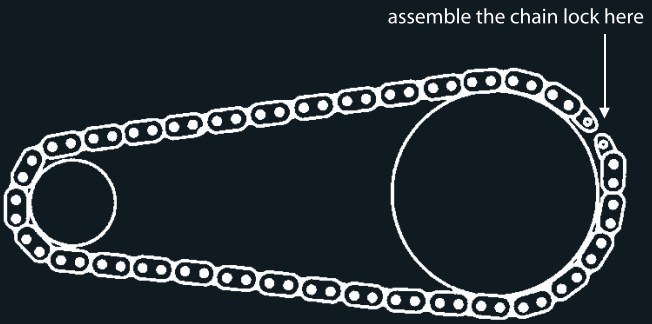

Fig.3
- Fit the chain on the chain wheel and pinion and loosely connect the ends with the prepared part of the chain lock. To do this, slide the bolts through the open sleeves on the two chain ends. In doing this, it can be helpful to fit the open ends of the chain on the chain wheel for the purpose of fixing the chain (Fig. 3).